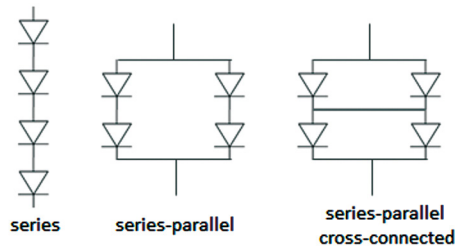

Figure 9: An example of how four LEDs can be connected.
Further, multiple LEDs can be electrically connected in three major configurations as shown in Figure 9.
- c. Series-parallel cross-connected. Each LED is connected as an array as shown in Figure 9. The forward voltage of individual LED in parallel to other LEDs must closely match, unlike in series-parallel where only the LED string voltage must match instead of individual LED.